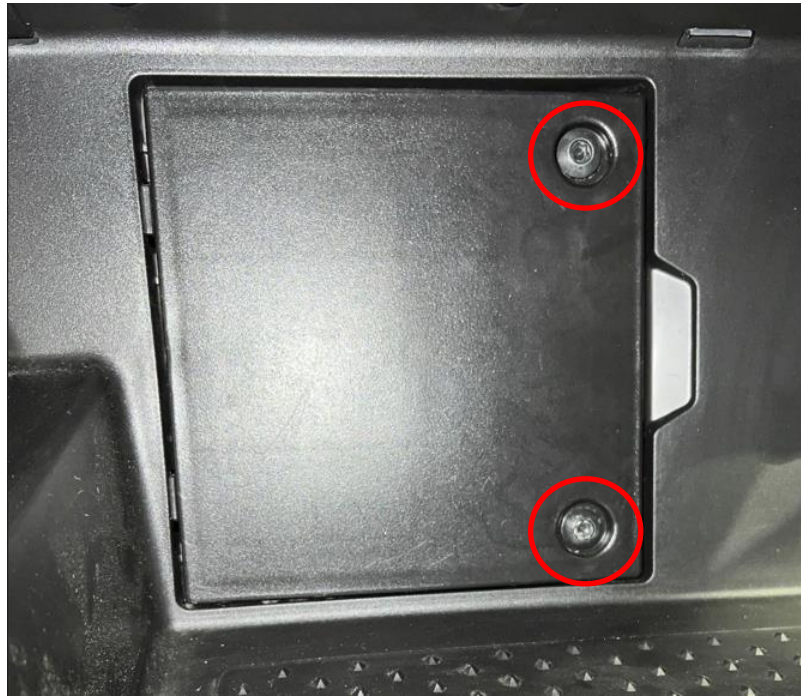

Figure 10: Remove the firewall access panel.
9. Remove the access panel located on the bottom of the firewall between the driver and passenger foot wells. There are two 5 mm allen head bolts you must unscrew. See Figure 10.